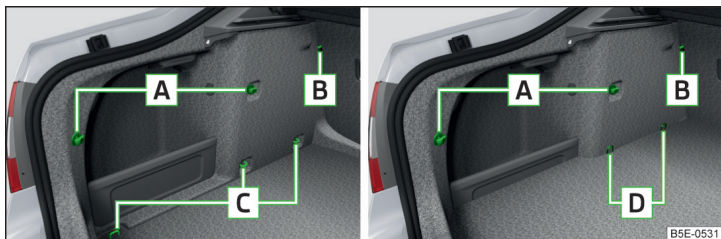
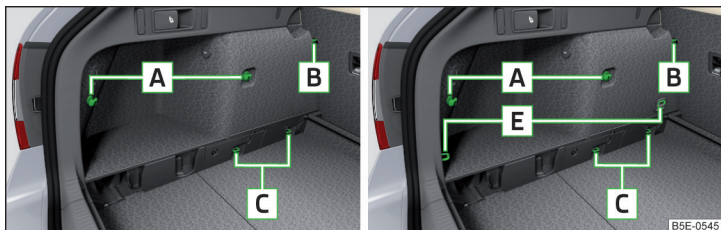

Fig. 102 Fastening elements: Variant 1/variant 2 (G-TEC)
Fig. 103 Fastening elements: Variant 3/variant 4
Overview of the fastening elements » Fig. 102 and » Fig. 103
If the vehicle is equipped with the variable loading floor and this is in the upper position, then the lashing eyes **E** » Fig. 103 on page 100 can be used for attaching the nets.
- For vehicles with lashing eyes **D** » Fig. 102 on page 100, only the following nets can be attached.
- Floor net, which can be attached to the rear fastening elements **A** » Fig. 102 on page 100 in the rear area.